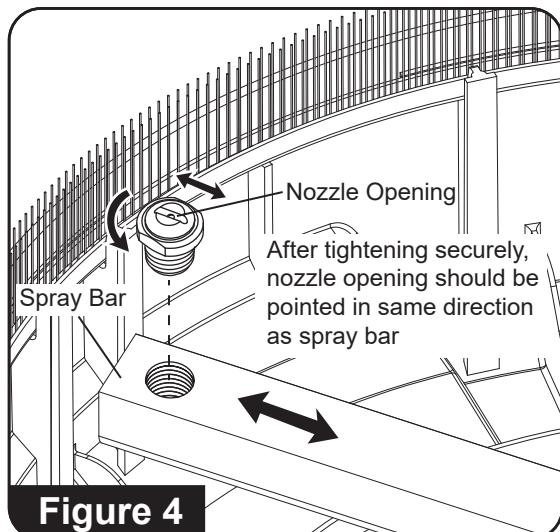

Figure 4
7. Reinstall the nozzle to the spray bar. Tighten securely. Align the nozzle opening as shown in Figure 4.